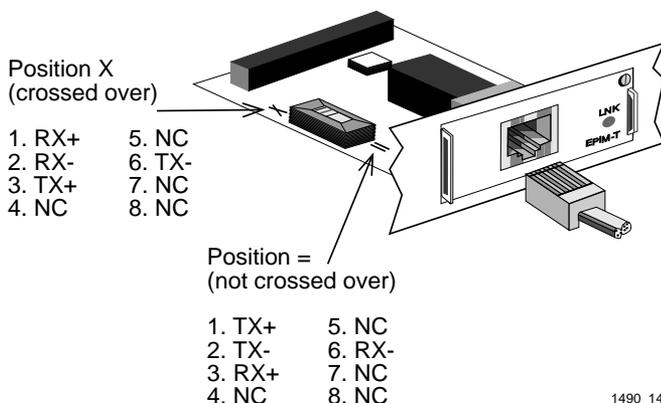

Figure 4-2. EPIM-T Crossover Switch
Before connecting a segment to the EPIM-T, check each end of the segment to determine if the wires are crossed over for the proper connection. If the wires do not cross over, use the switch on the EPIM-T to internally cross over the RJ45 port. Refer to Figure 4-2 to properly set the EPIM-T crossover switch.
1. Insert the RJ45 connector on the twisted pair segment into the RJ45 port on the EPIM. See Figure 4-2.